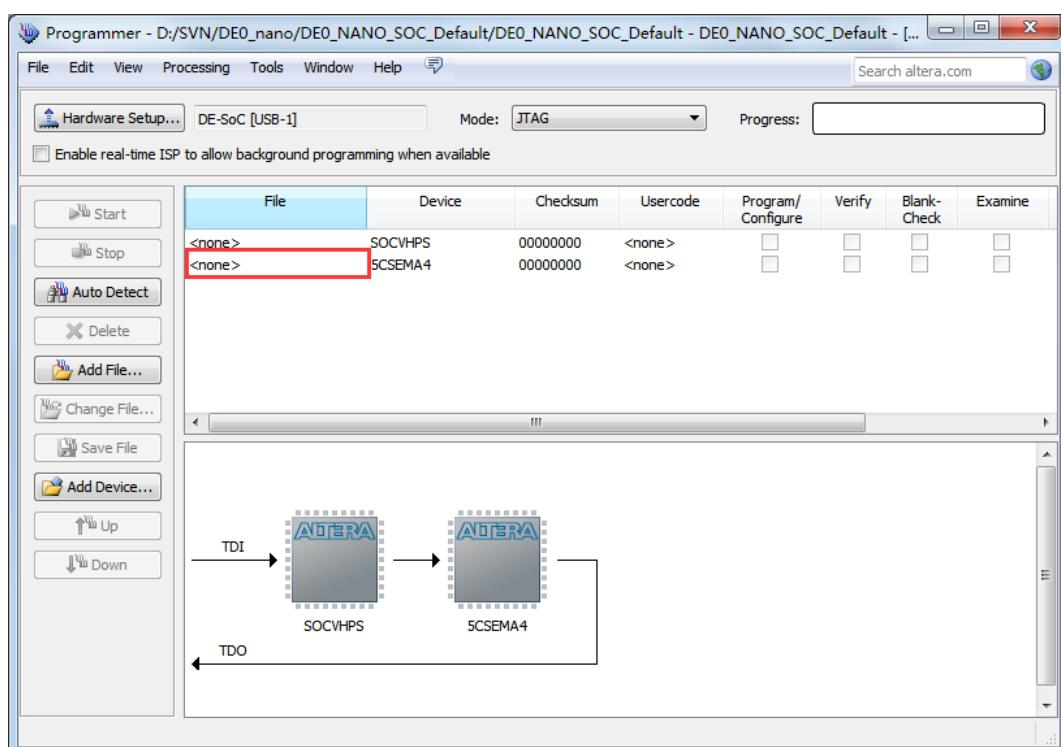

Figure 8-7 Two devices are detected in the Quartus II Programmer
3. Click **Auto Detect** and then select the correct device(5CSEMA4). Both FPGA device and HPS should be detected, as shown in **Figure 8-7**.
4. Double click the red rectangle region shown in **Figure 8-7** and the **Select New Programming File** page will appear. Select the .jic file to be programmed.
3. Click **Auto Detect**, and then select correct device, both FPGA device and HPS will detected. (See **Figure 8-7**)
4. Double click the red rectangle region shown in **Figure 8-7**, and the **Select New Programming File** page will appear. Select the correct .jic file.